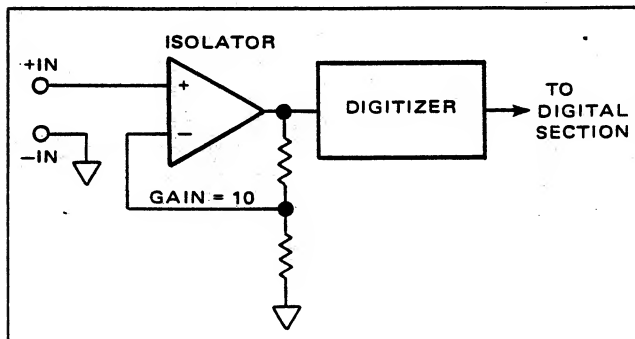

Figure 5.4 - 1 Volt DC Range
5.3.4.3.4 *1 Volt Range.* The signal from the +IN terminal is routed through the contacts of the .1+1 relay to the positive input of the Isolator. The Isolator output is applied to the Gain Resistor string through the normally closed contacts of the Preamp Select relay. A feedback signal from the Gain Resistor string is applied to the negative input of the Isolator (through the normally open contacts of the 1+100 and .1+1 relays) to obtain a closed loop gain of 10. The -IN terminal is connected to analog common through contacts of the Ohms relay, and to the lower end of the Gain Resistor string through contacts of the .1+1 relay. A simplified block diagram is shown in Figure 5.4.